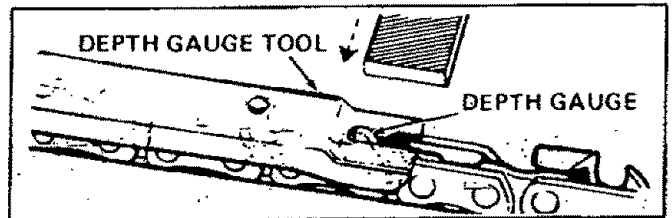

Figure 35
- a.) Place depth gauge tool (Catalog No. 71-36557) over each cutter depth gauge. Figure 35.
- c.) Maintain rounded front corner of depth gauge with a flat file. Figure 35 & 36.